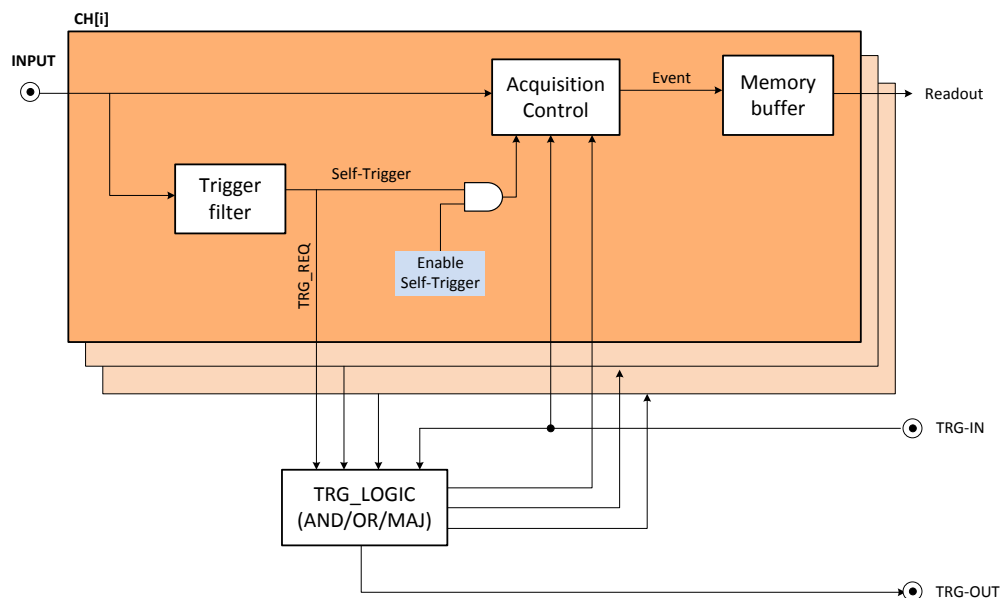

Fig. 2.4: Diagram showing the structure of the trigger management of the DPP-CI firmware
- 2) each channel triggers independently, then only those events satisfying programmable conditions are saved. Referring to **Fig. 2.4**: the TRG_LOGIC can combine (AND/OR/MAJ) the trigger request (TRG_REQ) from each self-trigger. When the logic condition is met, a trigger validation (TRG_VAL) is sent back to each channel individually to enable the acquisition of that event. Events not receiving a TRG_VAL signal are discarded. This technique allows to make coincidence and anti-coincidence requests among different channels (refer to **[RD4]** for further details);